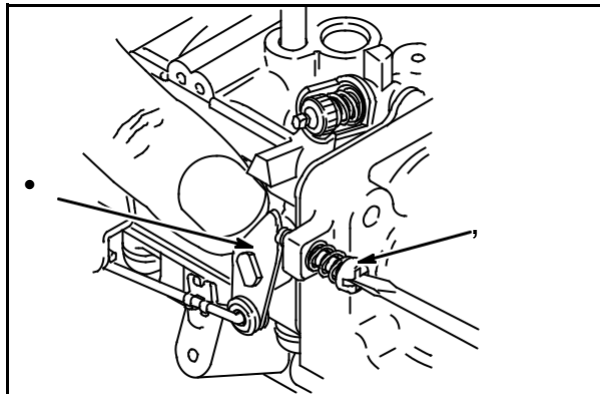

Fig. 19
Hold throttle lever (1) against idle speed screw (2), **Fig. 19**. Temporarily adjust idle to **1200 RPM**.